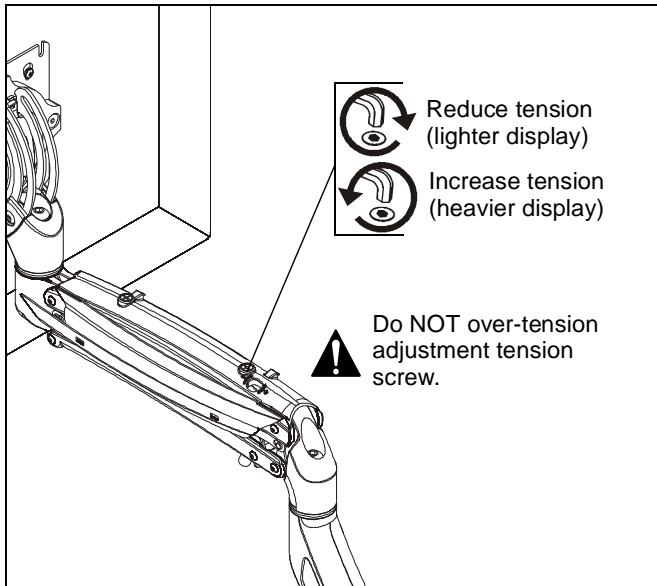

Figure 18
1. Tension may be adjusted with tension adjustment screw inside cable management cover and 1/8" hex key (L). (See Figure 18)